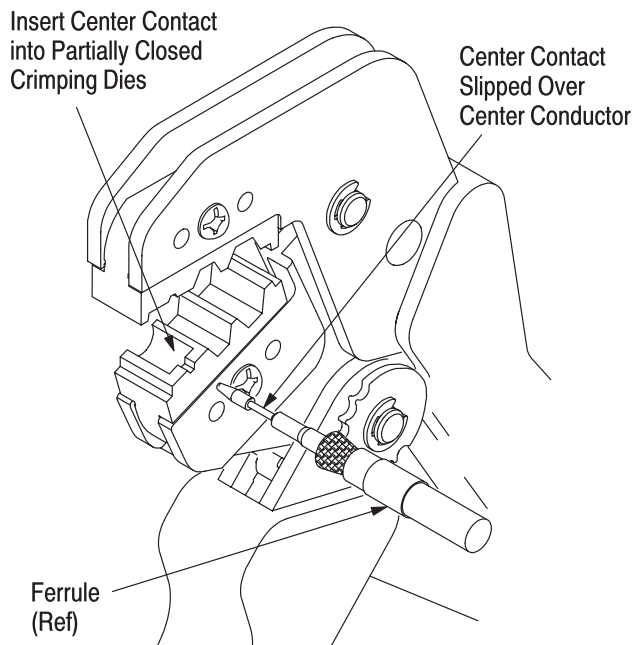

Figure 2
2. Slide the center contact onto the center conductor of the cable; then insert the contact assembly into the center contact crimp section of the die. See Figure 2.